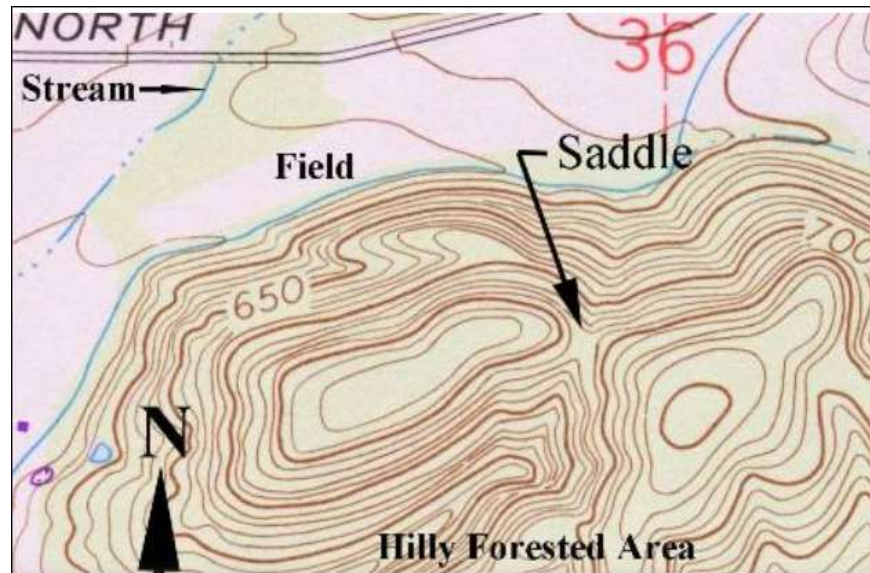

Figure. 2: contour line and mountains
7. Identify the saddle points on the maps (feature that slopes down on two sides, and slopes up on two sides(see Figure.2 below)